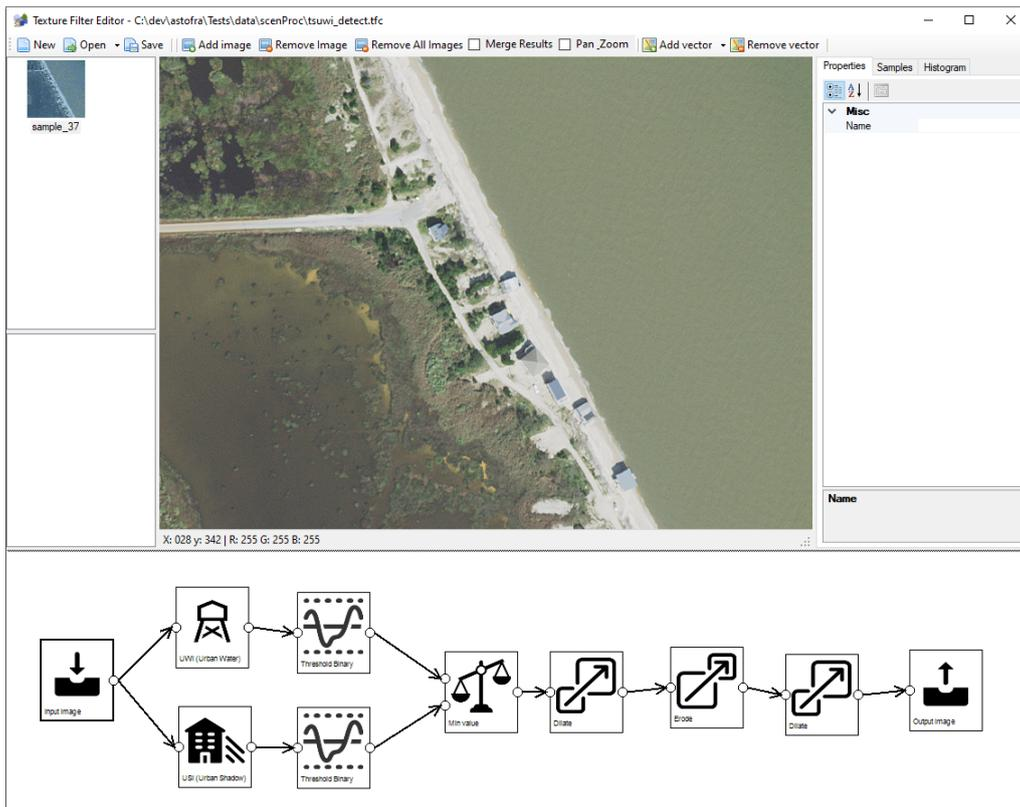

Figure 6.39: The input image for the water detection
1. The input image to use, see Figure 6.39.